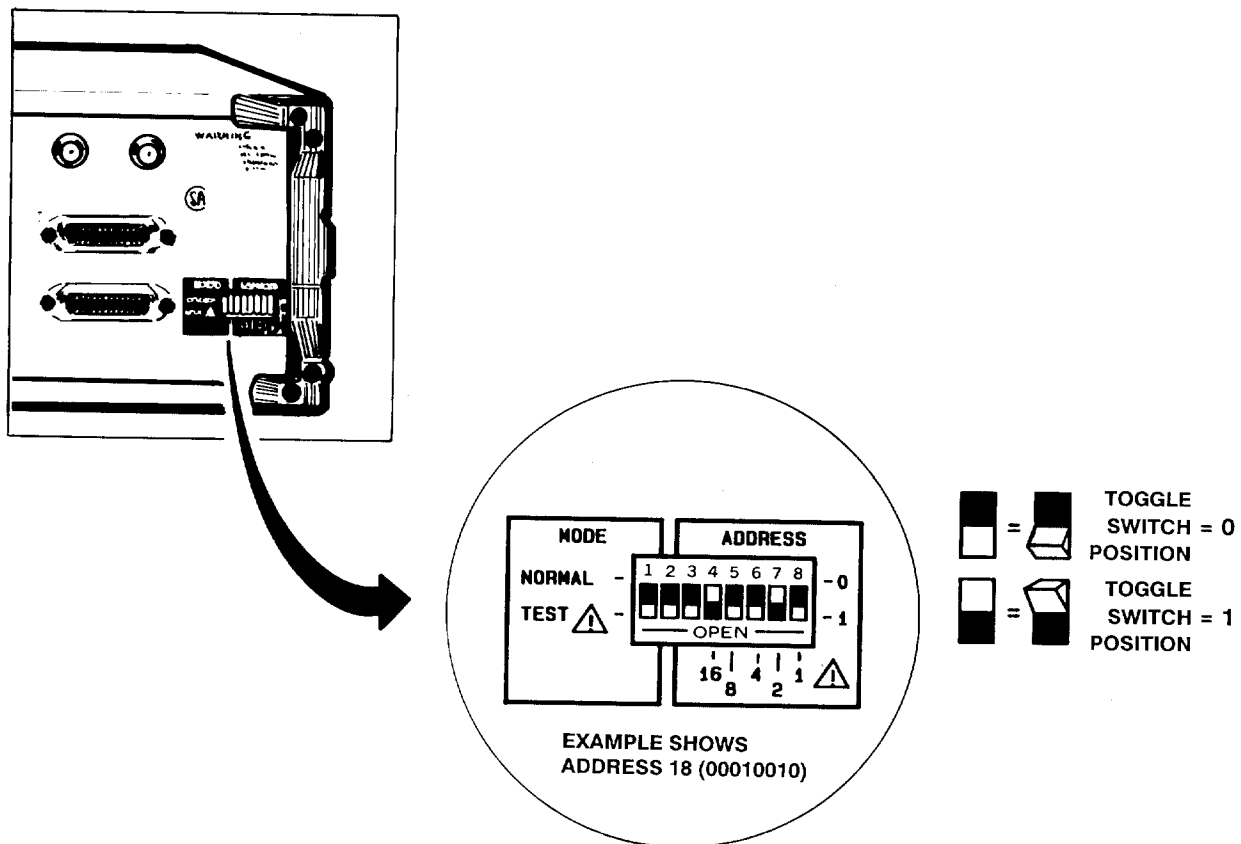

Figure 1-8. Preselector Address Selection
7. Set the address switch on the preselector rear panel to 18, as in Figure 1-8.